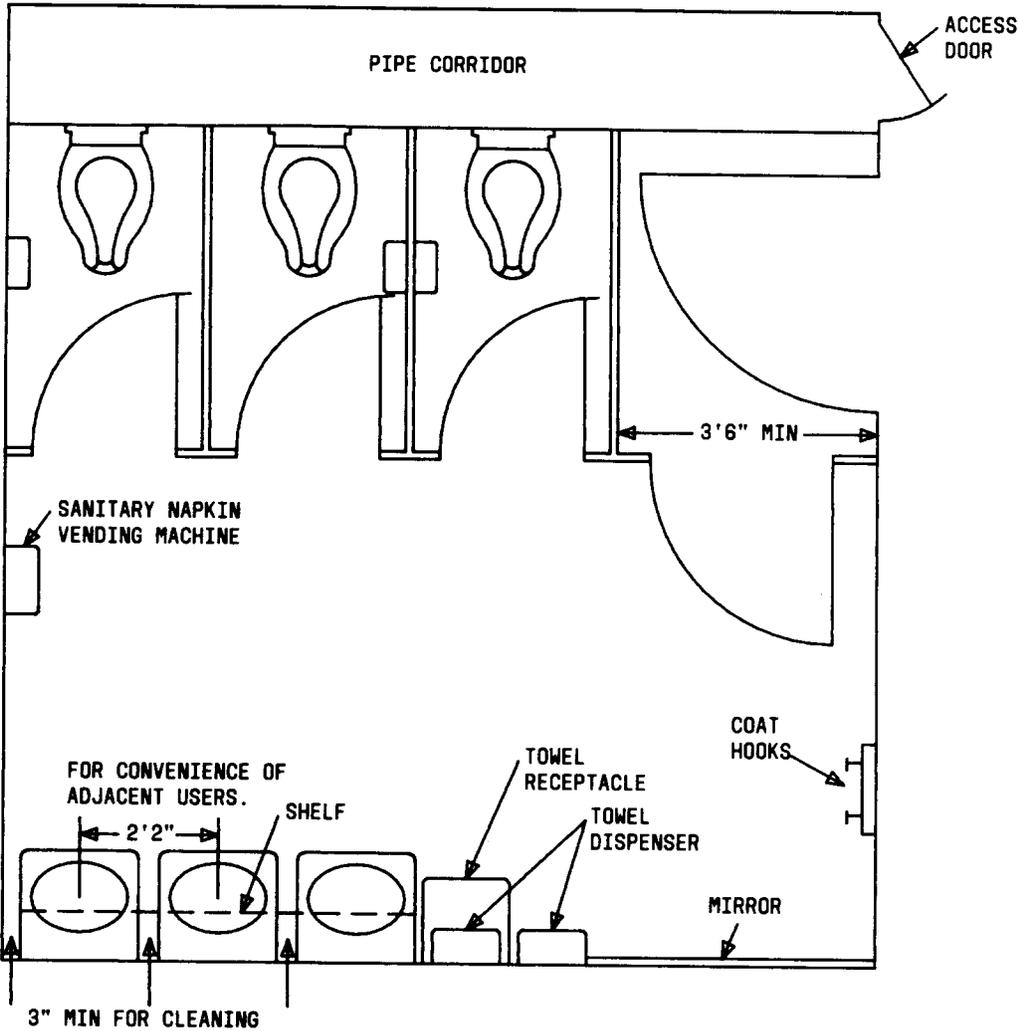

Fig. 1—Conventional Women's Toilet Room
3.01 Figures 1 through 5 show general layouts and details for typical conventional toilet rooms. Figures 6 through 11 show general layouts and details of toilet rooms for use by physically handicapped persons. The layouts are intended to indicate economical use of space together with clearances that will normally preclude congestion. Other arrangements may be worked out for individual cases; and as a rule, the relative location of fixtures is influenced by piping arrangement. Place entrance doors to toilet rooms to provide maximum obstruction to vision into the room wherever practicable.